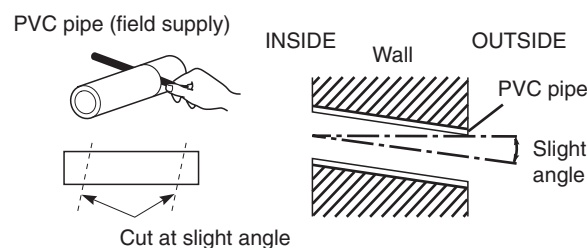

Fig. 1-62
- Measure the thickness of the wall from the inside to the outside and cut PVC pipe at a slight angle to fit. Insert the PVC pipe in the wall. (Fig. 1-62)